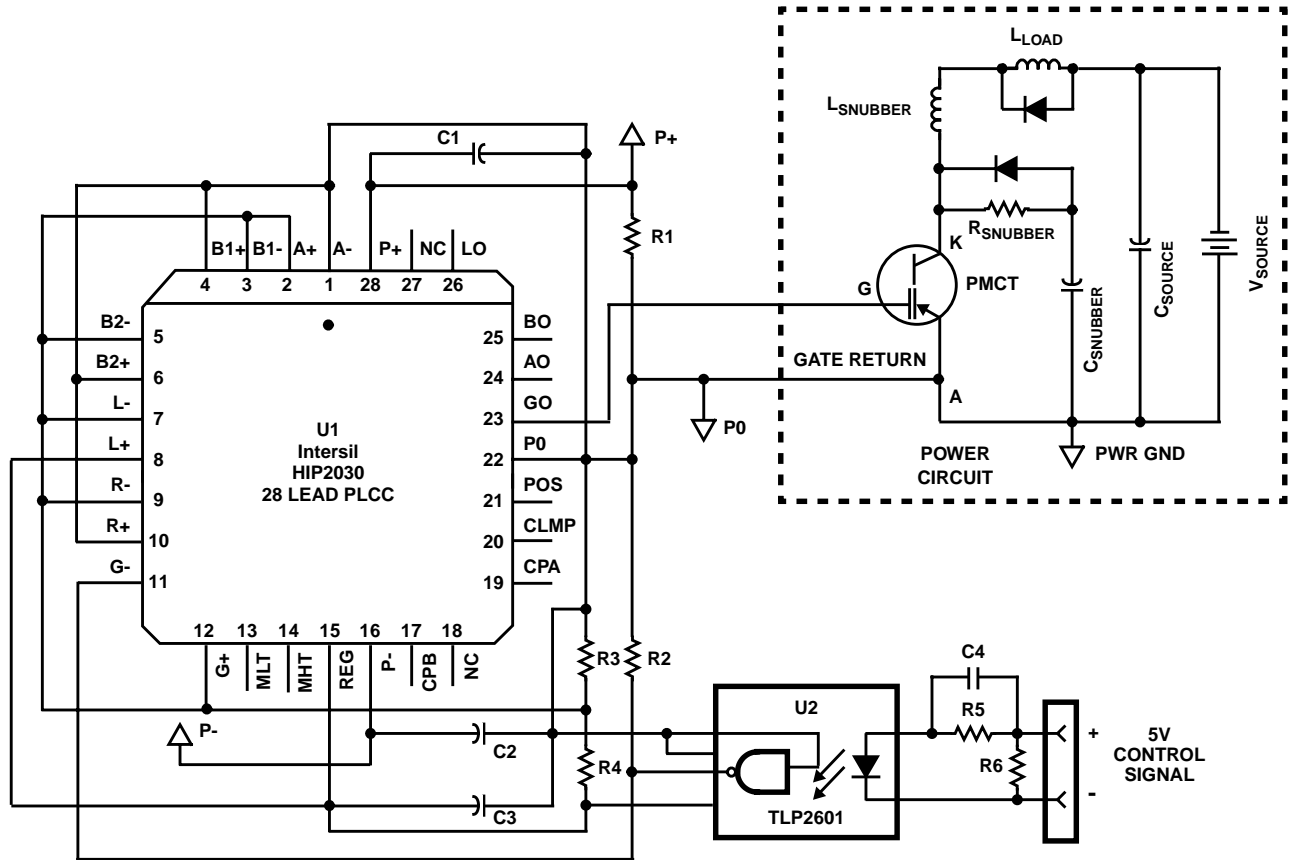

FIGURE 3. INTERSIL PHOTO-COUPLED ISOLATED GATE DRIVE
The **Intersil Photo-Coupled Isolated Gate Drive (HPCIGD)** circuit, illustrated in Figure 3, contains four subcircuits: a Single Supply DC bias, a Regulated voltage divider reference, a Local Energy Source Capacitance, and a Photo-Couple Receiver.
The **Single Supply DC Bias Circuit**, shown in Figure 3, consists of a single external dropping resistor (R1) connected between pins P+ (U1-28) and P0 (U1-22). When an input voltage of 30V is applied across pins P+ and P- (U1-16), R1 forms a resistive divider network with the input impedance located between pins P0 and P- (RVP0). This allows the circuit designer to adjust the value of R1 to obtain a desired bias voltage between pins P0 and P- (VP0.). The value of RVP0 can be calculated by evaluating the equivalent Quiescent Input Impedance (RQ) and the 5V reference impedance (RR) as parallel resistances. The values for R1, RQ, RR, and RVP0 can be determined by using Equations 1(A, B, C, D) as shown in Appendix A, Exercise 1.1.
**Q:** How do I calculate the value of the series dropping resistor R1, shown in Figure 3?